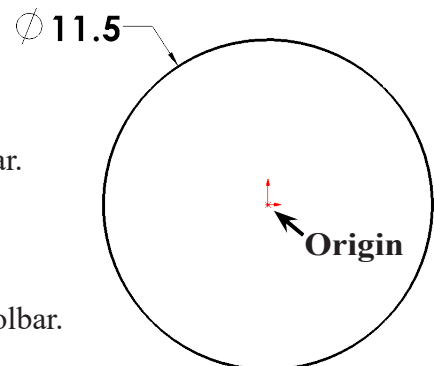

Fig. 2
Step 3. Click **Circle**  (S) on the Sketch toolbar.
Step 4. Sketch circle at **Origin** , **Fig. 2**.
Step 5. Click **Smart Dimension**  (S) on the Sketch toolbar.
Step 6. Dimension **diameter 11.5**, **Fig. 2**.